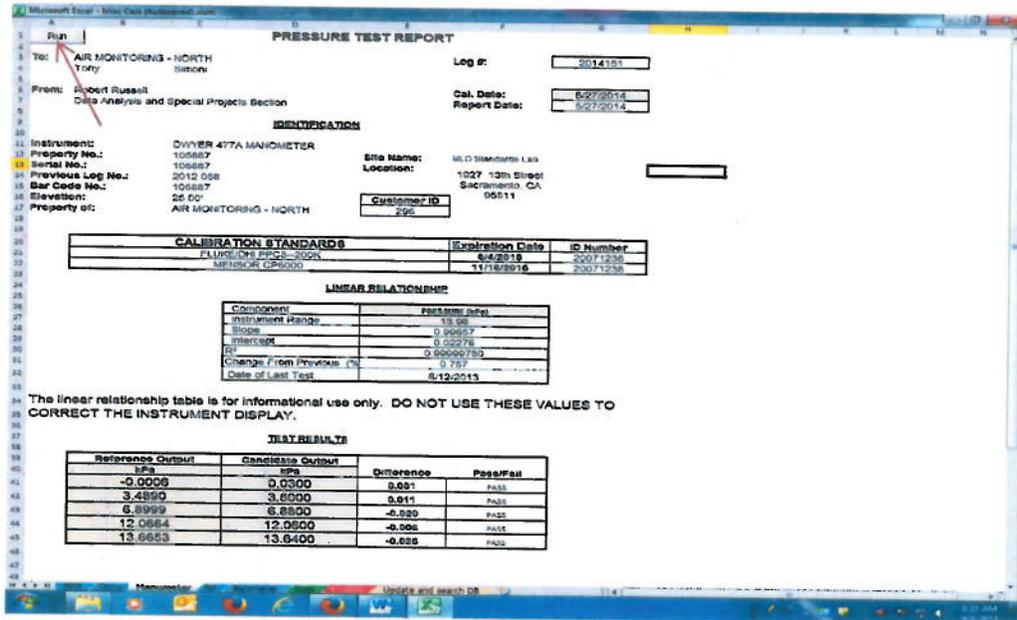
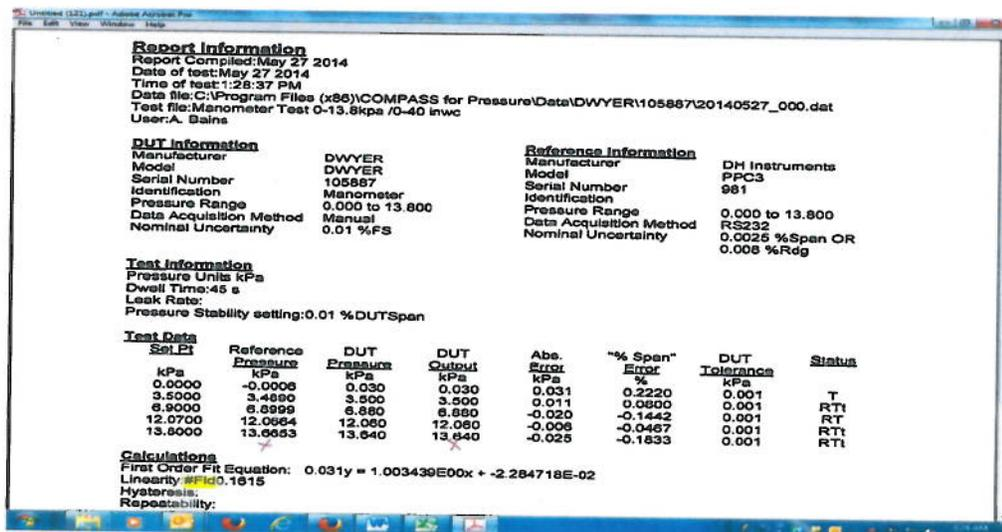

Figure 33
Figure 34
12.2 Click on the “RUN” button once. Clicking on the “RUN” button will save the test data. See Figure 33.
12.3 Print a copy of the “PRESSURE TEST REPORT” (Figure 33) and the Compass calibration data report (Figure 34). When you exit the Compass program it will ask you if you want to save the Compass calibration data report. Click on the “yes” button.